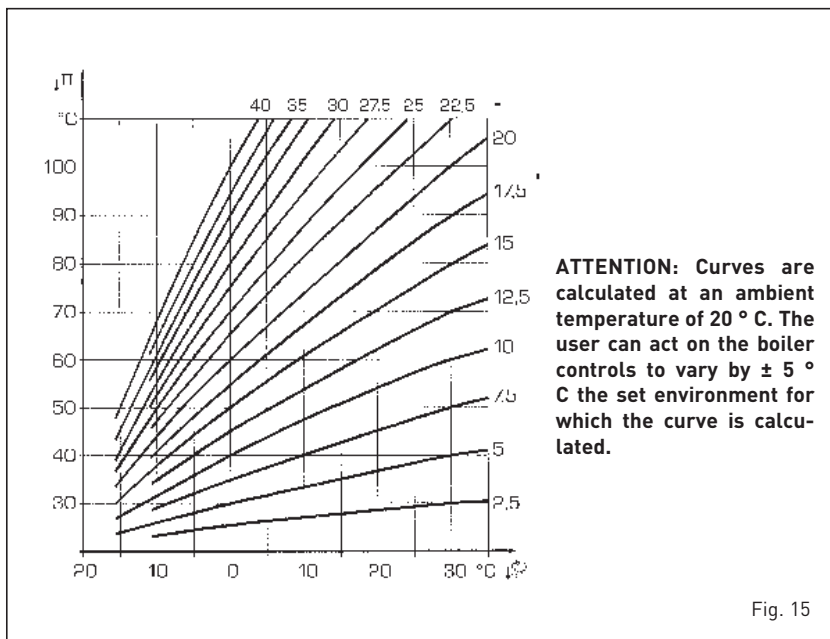

Fig. 15
3.4 EXTERNAL SENSOR (fig. 15)
The climatic curve to be set can be selected from a value of 3 and 40 [at step 1]. Increasing the steepness of the curves of fig. 15 will increase the output temperature as the external temperature decreases.